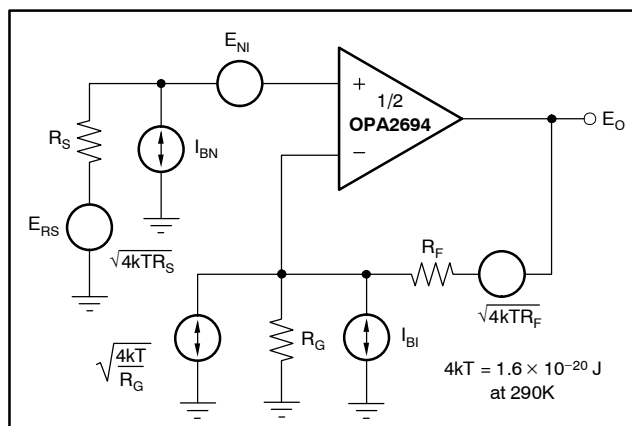

Figure 12. Op Amp Noise Analysis Model
significantly lower than earlier solutions, while the input voltage noise (2.1nV/ \sqrt{Hz}) is lower than most unity-gain stable, wideband, voltage-feedback op amps. This low input voltage noise was achieved at the price of higher noninverting input current noise (22pA/ \sqrt{Hz}). As long as the AC source impedance looking out of the noninverting node is less than 100 Ω , this current noise will not contribute significantly to the total output noise. The op amp input voltage noise and the two input current noise terms combine to give low output noise under a wide variety of operating conditions. Figure 12 shows the op amp noise analysis model with all the noise terms included. In this model, all noise terms are taken to be noise voltage or current density terms in either nV/ \sqrt{Hz} or pA/ \sqrt{Hz} .
The total output spot noise voltage can be computed as the square root of the sum of all squared output noise voltage contributors. Equation (5) shows the general form for the output noise voltage using the terms shown in Figure 12.